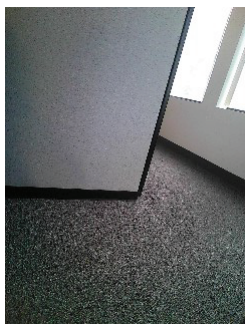

Figure 5.2 Visible Spectrum Digital Camera Image
4. View the image on the display, see **Figure 5.2**. Pull the image capture trigger to save an image. See Section 5.4, *Capturing and Working with Images*, for more information.